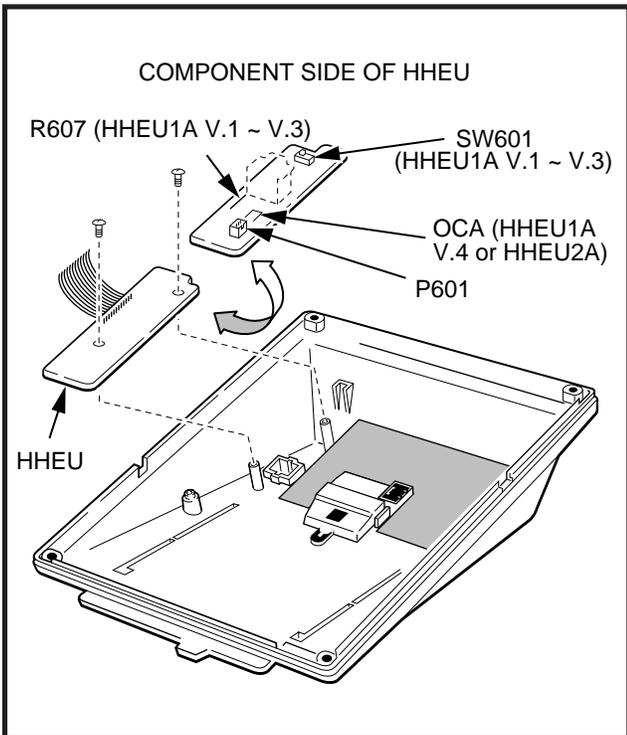

FIGURE 7-10
- 3) If installing a **V.3** HHEU1, set the **SW601** switch on the HHEU to **HEADSET** for the headset or loud bell application (Figure 7-10). **V.4** HHEU1 and HHEU2 do not have this switch, because both of these upgrades are automatically set for the headset/loud bell application.
connected to the HHEU, cut both sides of the **R607** resistor (Figure 7-10), then remove the resistor to eliminate electrical contact.
- 5B) For the **V.4** HHEU1 and the HHEU2: If only the headset is connected to the HHEU, cut the **OCA** strap (Figure 7-10).
- 6) Position the HHEU PCB on the standoffs inside the base (Figure 7-10), and secure with the two provided screws.